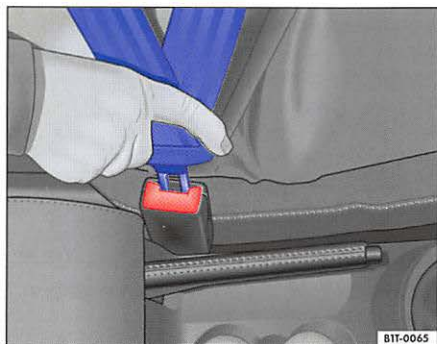

Fig. 12 Belt buckle and tongue for the driver's seat
- Insert the tongue into the correct buckle for your seat until you hear it latch securely ⇒page 19, fig. 12.